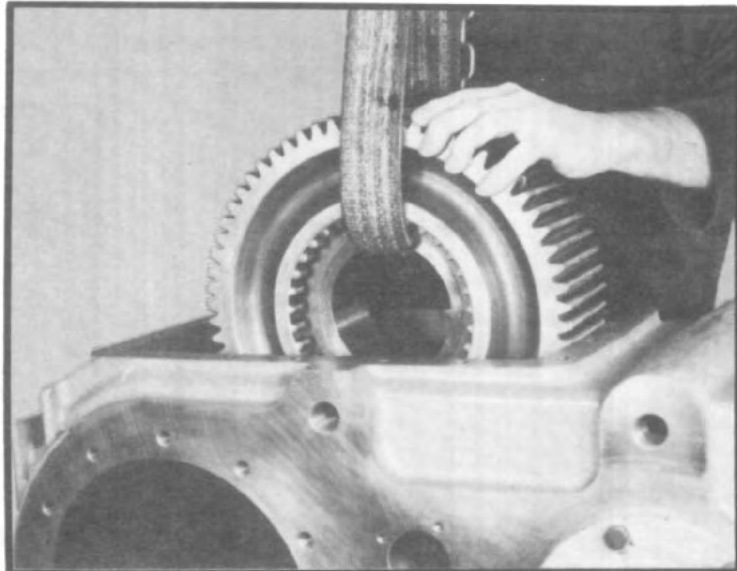

Fig. 141
- 3.5 Place underdrive gear in housing with clutch face inward. (See fig. 141.)